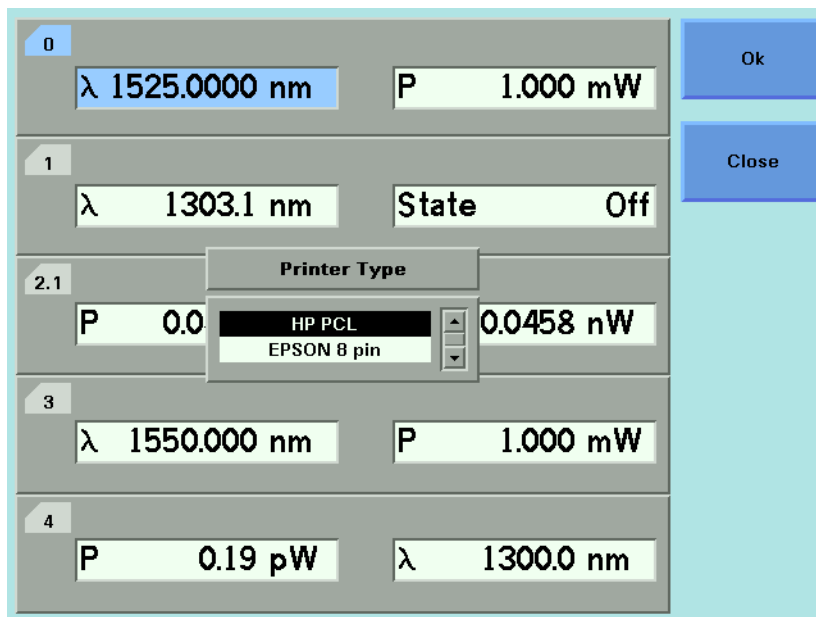

Figure 36 Selecting a Printer Type
- 2 Move to the *<Printer Type>* menu option and press *Enter*. You see a box, as shown in Figure 36, displaying the following printer types: